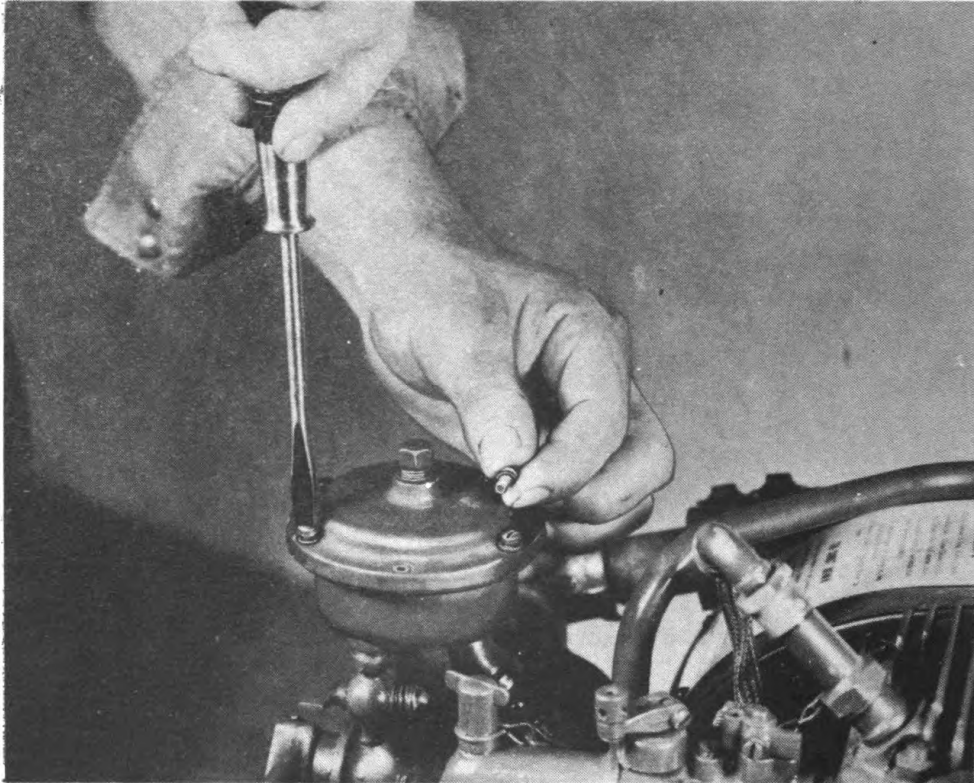

Fig 78. Removing cover of feed water regulator.
a. Remove cover of feed water regulator with screw driver as shown in figure 78.